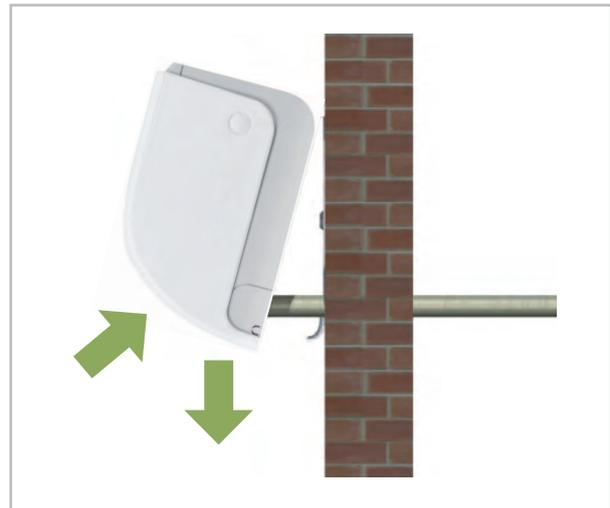

Fig. 27: Horizontal positioning
5. Check again that the unit is level. (Fig. 27)